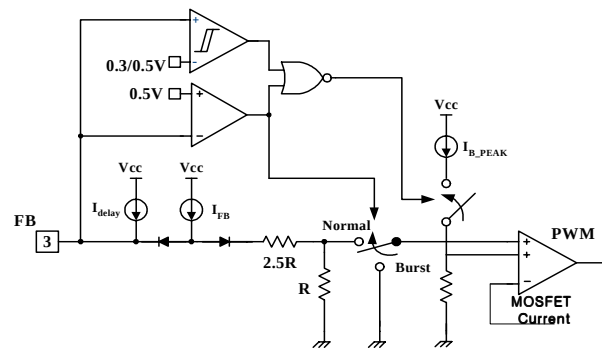

Figure 8. Circuit for Burst operation
5. Soft Start : The FPSTM has an internal soft start circuit that increases the feedback voltage together with the Sense FET current slowly after it starts up. The typical soft start time is 14msec, as shown in figure 8, where progressive increments of Sense FET current are allowed during the start-up phase. The pulse width to the power switching device is progressively increased to establish the correct working conditions for transformers, inductors, and capacitors. The voltage on the output capacitors is progressively increased with the intention of smoothly establishing the required output voltage.